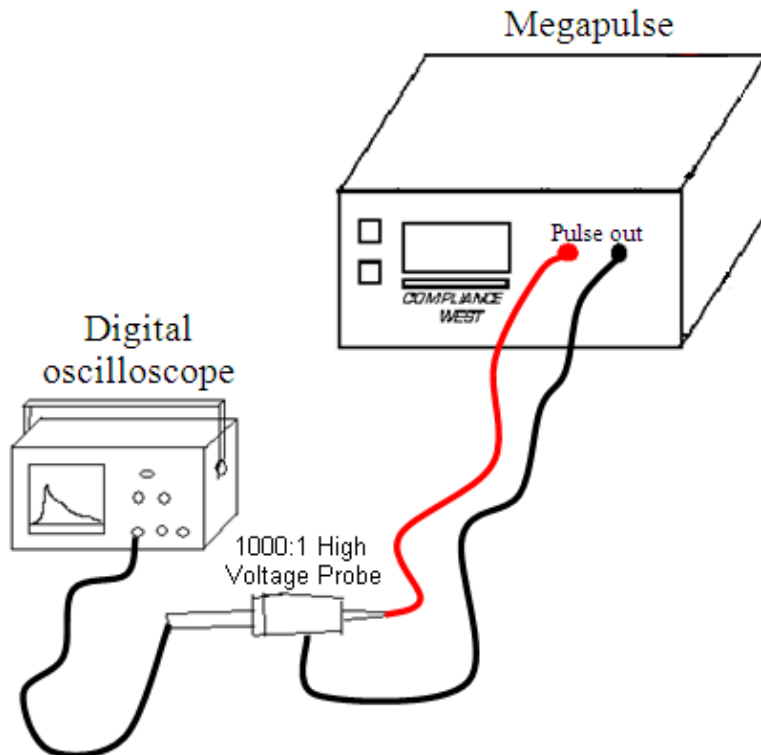

Figure 5. Waveform Measurement Setup.
6. Connect the ends of the test leads to the measuring instrument. See Figure 5 for an example.